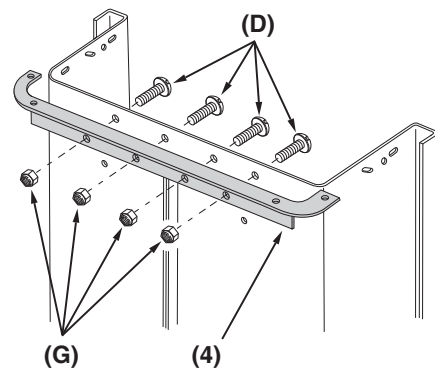

Figure 2
**STEP 2 (SEE FIGURE 2):** Attach the lower rear angle bracket (4) to the assembled cart body using four 5/16" x 3/4" truss head bolts (D) and 5/16" nylock nuts (G). **Do Not Tighten!**